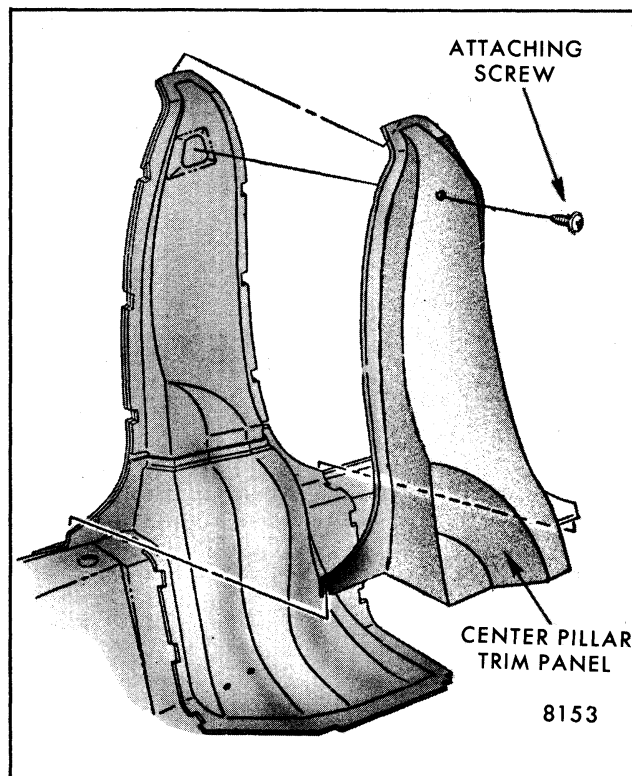

Fig. 5-15-Center Pillar Trim Attachment Hardtop Styles
2. On hardtop styles, remove attaching screw securing center pillar trim panel to center pillar brace (Fig. 5-15). Then remove trim from pillar by lifting straight-up to clear retaining flanges.